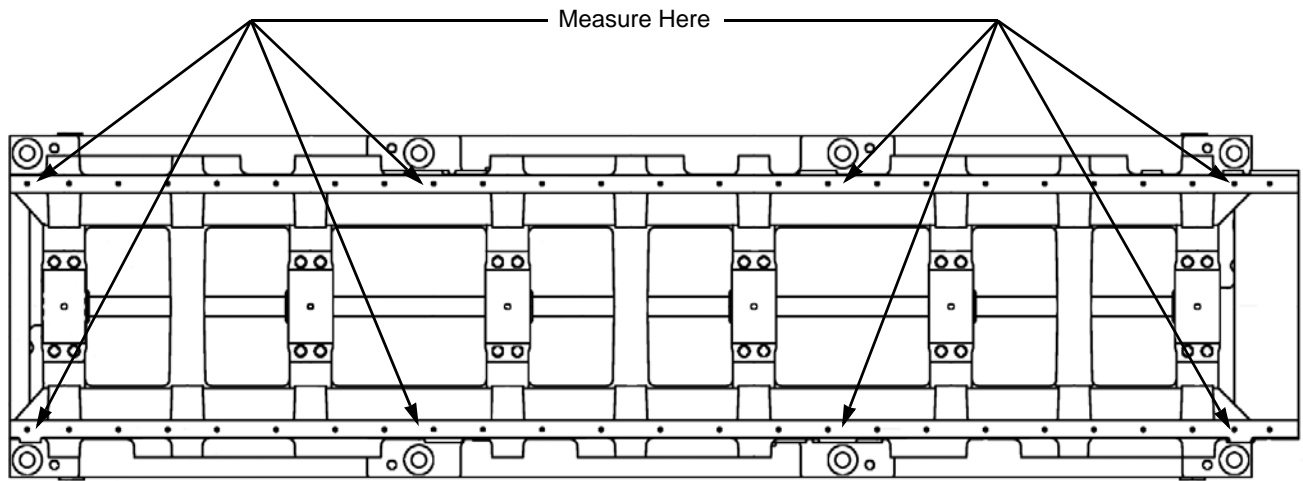
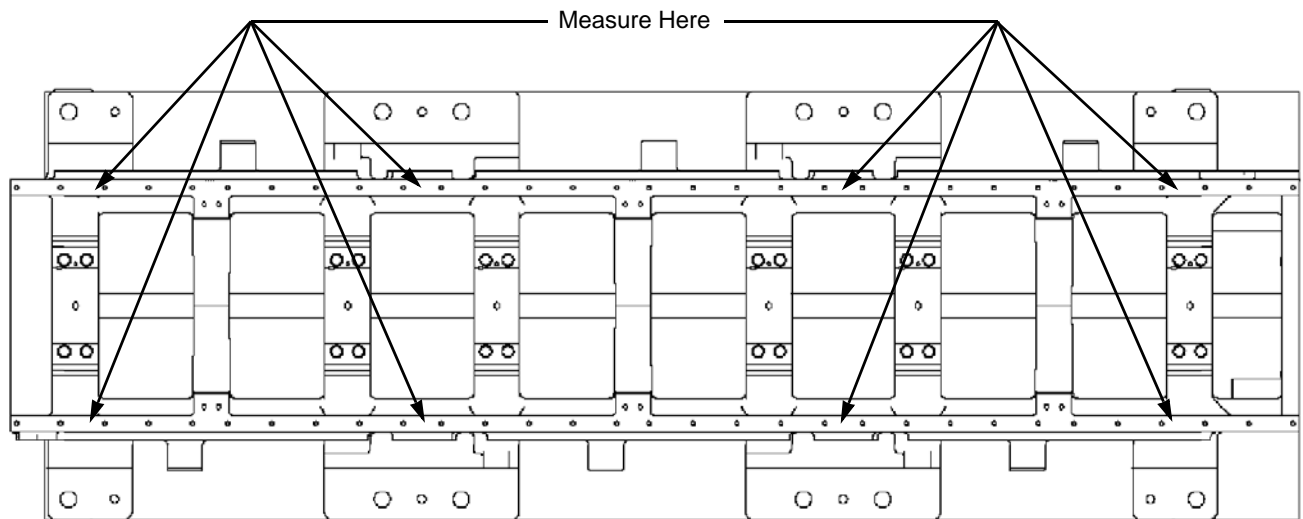

FIGURE 1 Flatness Check Locations for Frames with Single Anchor Bolts
FIGURE 2 Flatness Check Locations for Frames with Pairs of Anchor Bolts
- To check top plane flatness, use measurement equipment with a published accuracy of ± 0.001 inches (0.025 mm) over the distance required to measure the entire length of both frame rails. Measure the top surface of both sides of the frame rails at each anchor bolt (see Figure 1), or between each pair of anchor bolts for frames with pairs of anchor bolts (see Figure 2). Readings between any two adjacent points must be within 0.002 in. (0.05 mm). For proper alignment, total accumulated out of plane flatness must be within Table 1 tolerances.